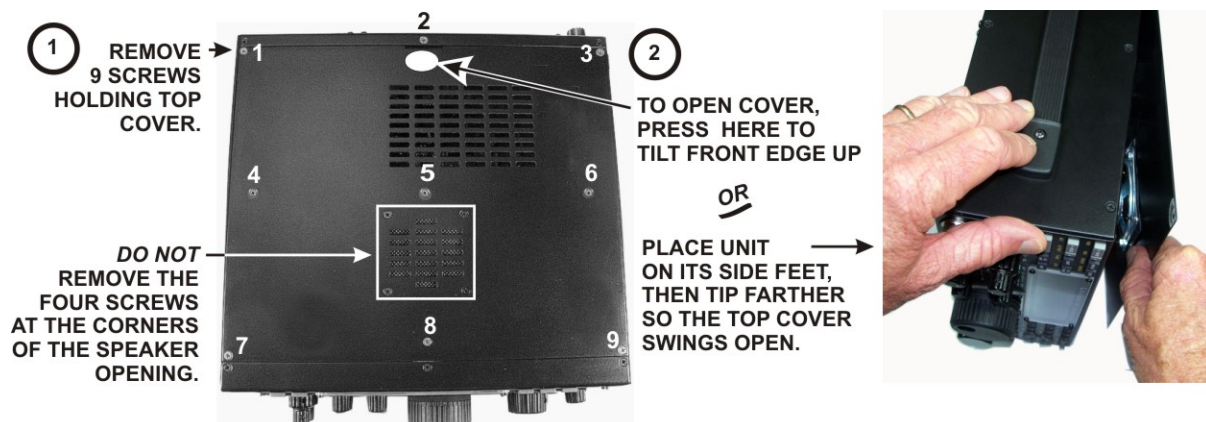

Figure 1. Removing the Top Cover.
- Remove the K3 top cover as shown in Figure 1.